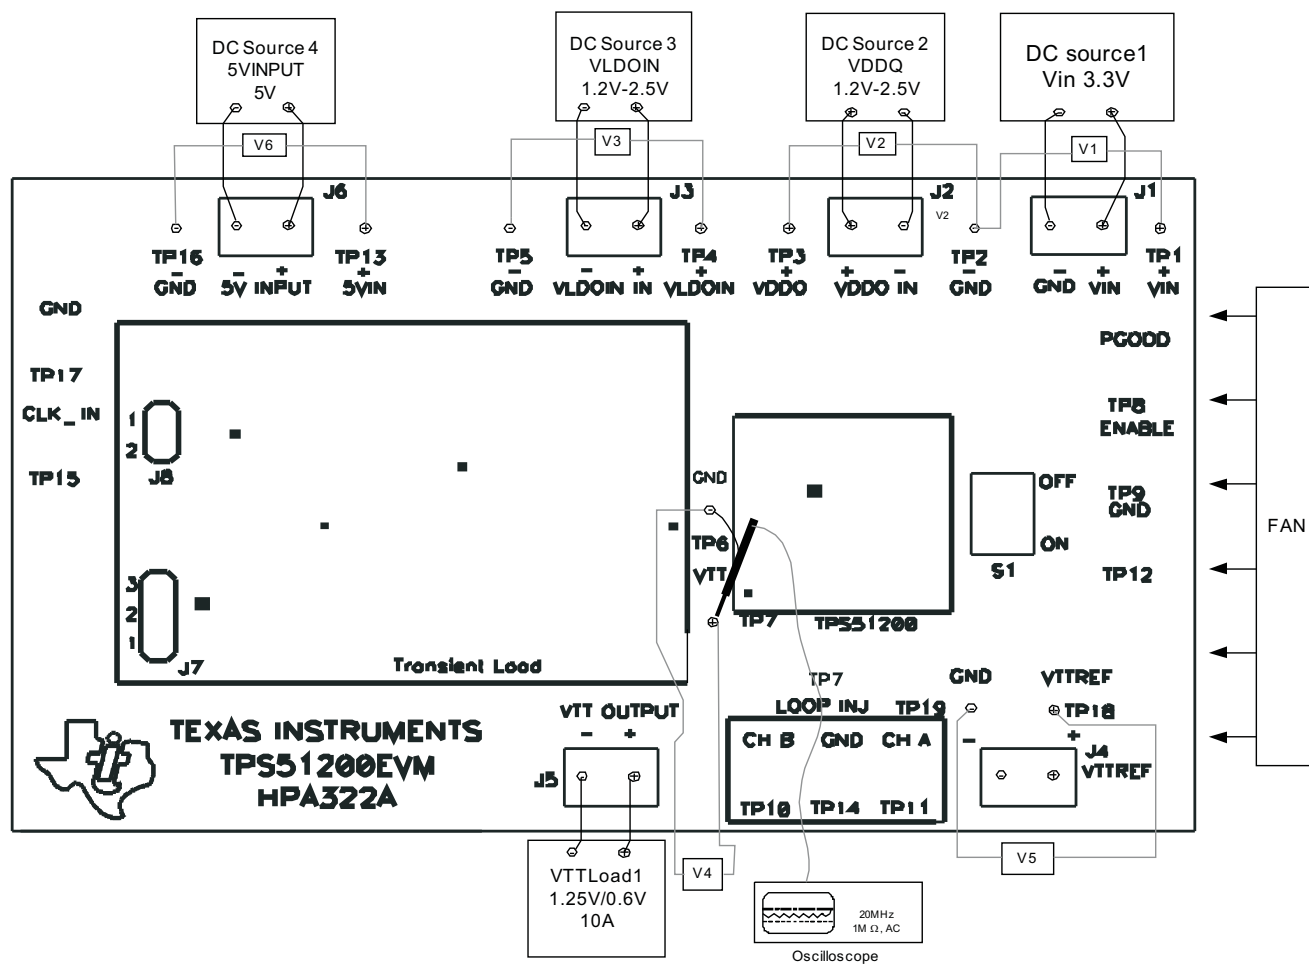

Figure 3. Recommended Test Setup
VIN	The input voltage source 1 should be a 0 V to 10 V variable DC source capable of supplying 1A dc. Connect Vin to J1 as shown in Figure 3 .
VDDQ	The input voltage source 2 should be a 0 V to 10 V variable DC source capable of supplying 1A dc. Connect VDDQ to J2 as shown in Figure 3 .
VLDOIN	The input voltage source 3 should be a 0 V to 10 V variable DC source capable of supplying 10A dc. Connect VLDOIN to J3 as shown in Figure 3 .
5VINPUT	The input voltage source 4 should be a 0-10V variable DC source capable of supplying 1A dc. Connect 5VINPUT to J6 as shown in Figure 3 .
Voltmeters (0V-10 V) are used to monitor the V_{IN} voltage (V1), VDDQ input voltage (V2), VLDOIN input voltage (V3), VTT output voltage (V4), VTTREF output voltage (V5), 5VIN input (V6) as shown in Figure 3
Load 1 is an electronic load set in constant current mode capable of sinking 0 A to 5 A of current. Load 1 needs to be connected to J5 as shown in Figure 3. Load 2 is recommended to use resistive load around 0.5 W. VTTREF only sink/source maximum 10 mA. Load 2 needs to be connected to J4 as shown in Figure 3.
- Prior to connecting the DC input source, limit the source current and then connect the DC source to EVM as shown in Figure 3
- Connect voltage meter (V1, V2, V3, V4, V5, V6) as shown in Figure 3.
- For operation with load, connect Load 1 and Load 2 to EVM as shown in Figure 3.
8. Use scope probe to monitor VTT load transient regulation. The scope probe should be put at TP7 (+) and TP6 (-) by setting to AC with 20 MHz bandwidth limiting. Use a vertical resolution of 20 mV per division and a horizontal resolution of 200 μ s per division. The measurement should ignore high frequency switch transition "spike". Refer to Figure 3 and Figure 9.